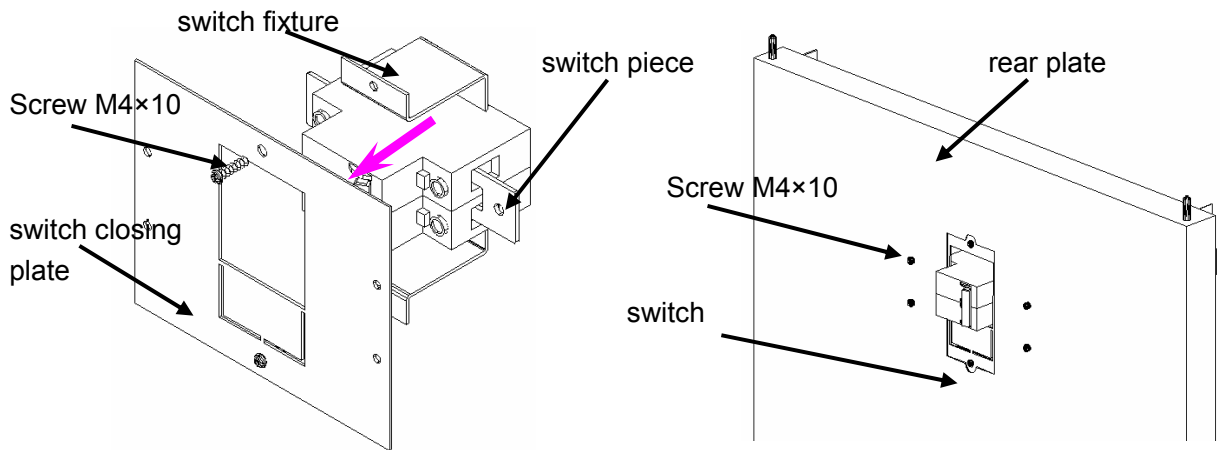

Fig. 1
- (1) Secure the battery cabinet switch connection piece onto the switch, clamp the switch on the switch fixture, Use M4×10 screws to secure the switch and fixture onto the switch closing plate, and then use M4×10 screws to secure the switch closing plate onto the rear plate of battery cabinet, as shown in Fig. 1: